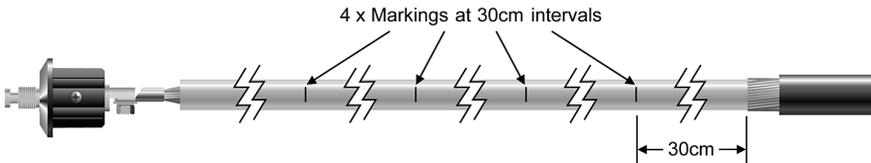

Figure 27.
7. Use a marker or pen to mark 30cm intervals on the White XLPE Insulation between the end of the Outer Copper Screen Wires and the Crimp - this will act as a guide to wrapping the semiconductive tape towards the Crimp in a coarse spiral. (Figure 27)